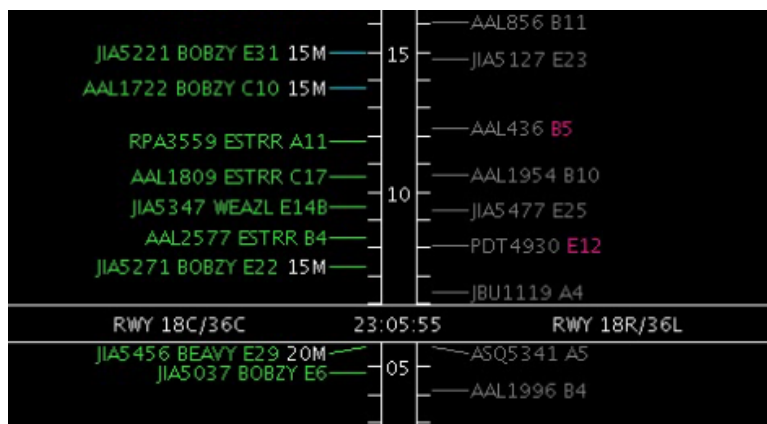

**Figure 109. Enter or choose an MIT Restriction value.**
**Step 4:** Enter the MIT restrictions value (Figure 109). This can either be typed in the text box or selected from the drop-down list.